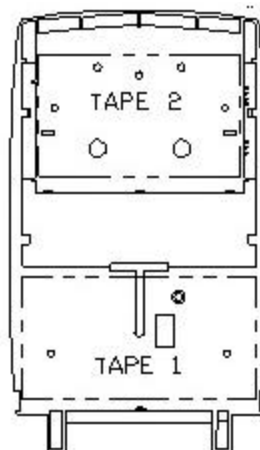

FIG.4 POSITIONING TAPE ON BACK OF CHASSIS
Tape 1: 150x75mm (about 6x3"). Tape 2: 130x75mm (about 5x3") (see Fig.4).
- Remove protective paper from one side of each adhesive-pad and press the pads in the place at the locations indicated in Fig. 4.